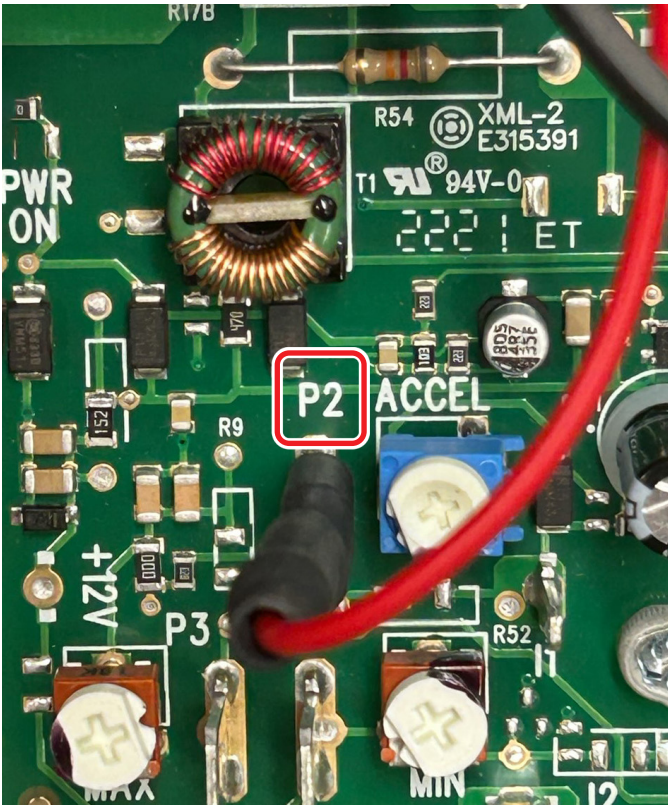

FIGURE 13—P2 is indicated by the red rectangle.
K. The Red wire connector is pushed onto the spade post “P2” (see Figures 13 and 14).